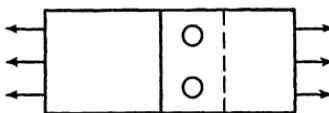

Fig. 321.—Two $1/16$ -in. S.A.E. X-4130 rivets.
- 91.** What is the strength in shear of the lap joint shown in Fig. 321?